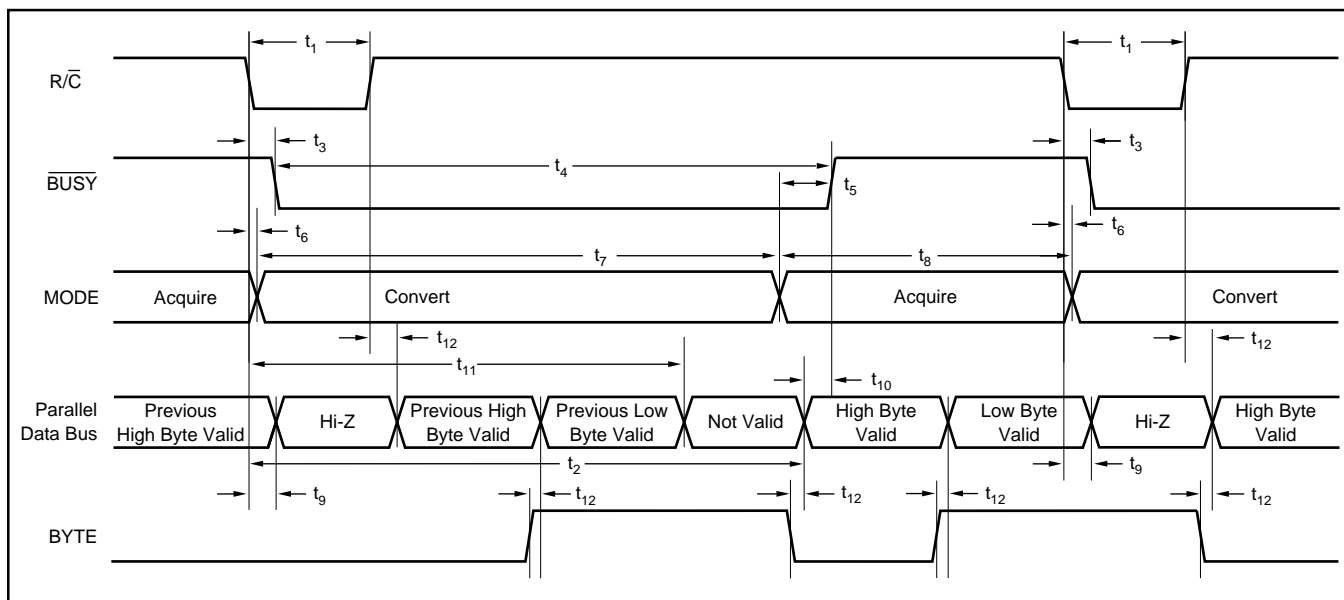

FIGURE 2. Conversion Timing with Parallel Output ($\overline{\text{CS}}$ and DATACLK tied LOW, $\overline{\text{EXT/INT}}$ tied HIGH).
The ADS7807 will begin tracking the input signal at the end of the conversion. Allowing 25µs between convert commands assures accurate acquisition of a new signal. Refer to Tables II and III for a summary of \overline{CS} , R/\overline{C} , and $BUSY$ states, and Figures 2 through 6 for timing diagrams.
NOTE: (1) See Figures 2 and 3 for constraints on data valid from conversion 'n - 1'.
After conversion 'n' is completed and the output registers have been updated, $\overline{\text{BUSY}}$ (pin 24) will go HIGH. Valid data from conversion 'n' will be available on D7-D0 (pins 9-13 and 15-17). $\overline{\text{BUSY}}$ going high can be used to latch the data. Refer to Table V and Figures 2 and 3 for timing constraints.
After conversion 'n' has been initiated, valid data from conversion 'n - 1' can be read and will be valid up to $12\mu\text{s}$ after the start of conversion 'n'. Do not attempt to read data beyond $12\mu\text{s}$ after the start of conversion 'n' until $\overline{\text{BUSY}}$ (pin 24) goes HIGH; this may result in reading invalid data. Refer to Table V and Figures 2 and 3 for timing constraints.